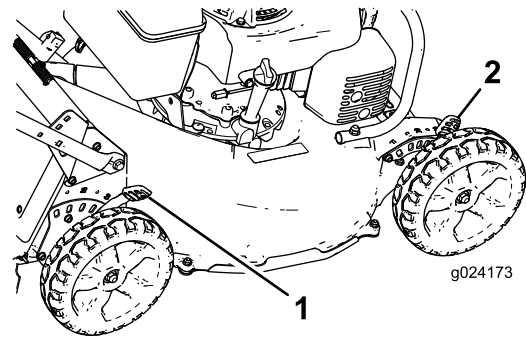

Figure 15
1. Pull the cutting-height lever toward the wheel (Figure 15) and move the lever to the desired setting.